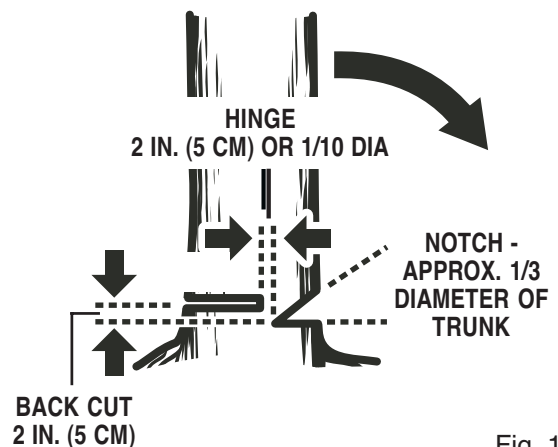

Fig. 15
- **Notched Undercut.** Cut a notch about 1/3 the diameter of the tree, perpendicular to the direction of fall. Make the cuts of the notch so they intersect at a right angle to the line of fall. This notch should be cleaned out to leave a straight line. To keep the weight of the wood off the saw, always make the lower cut of the notch before the upper cut. See Figure 15.
- **Felling Backcut.** The backcut is always made level and horizontal, and at a minimum of 2 inches (5 cm) above the horizontal cut of the notch. See *Figures 15 and 16*.
- Never cut through to the notch. Always leave a band of wood between the notch and backcut (approximately 2 inches (5 cm) or 1/10 the diameter of the tree). This is called "hinge" or "hingewood." It controls the fall of the tree and prevents slipping or twisting or shoot-back of the tree off the stump. See *Figures 15 and 16*.